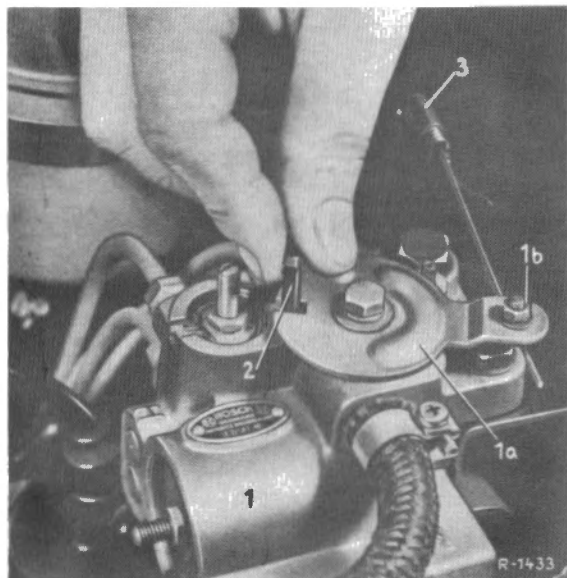

Fig. 32-18/3
- (D) Connection for electric pressure indicator for warning lamp
- (V) Screw plug for exhaust air from front axle
- (H) Screw plug for exhaust air from rear axle
7. Connect the cable for the valve unit to the lever (1a). To do this, push the push-pull button on the instrument panel in completely and secure the lever on the valve unit by means of a 5 mm ϕ pin in "Drive Position" (Fig. 32-18/3).